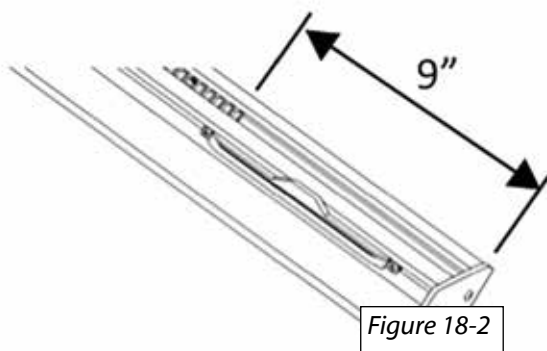

Figure 18-2
3. Position the lower gear rack to the correct end of rail spacing dimension (shown below). [Figure 18-2 and 18-3]